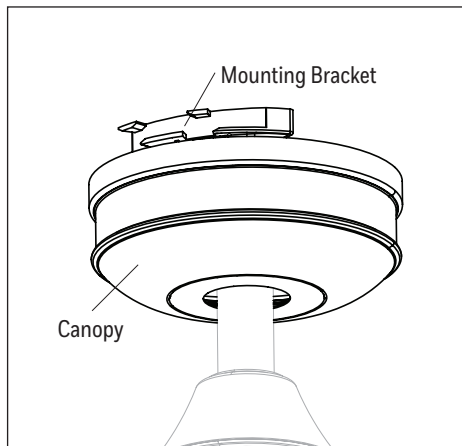

Figure 5.2
2. Lift the canopy over the mounting bracket and rotate clockwise until secure (Figure 5.2).